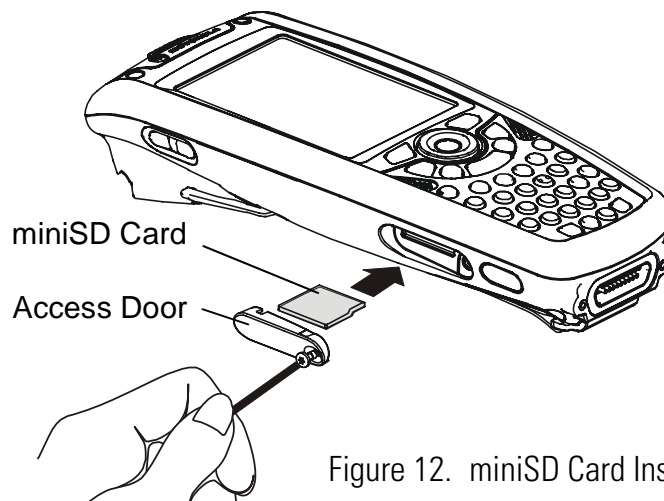

Figure 12. miniSD Card Installation
1. Use Torx T-8 tool to remove the screw that secures the access door of the miniSD card compartment (see Figure 12).